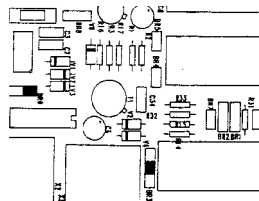

Figure 7: Floating relay contacts
3. X3 pin 3 and pin 5 as a floating relay contact. Figure 7 shows the jumper settings.